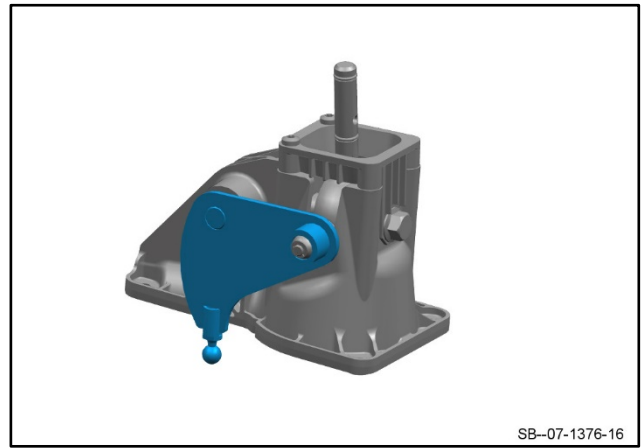

Figure 14
16. Install the shifter assembly (refer to Figure 14).